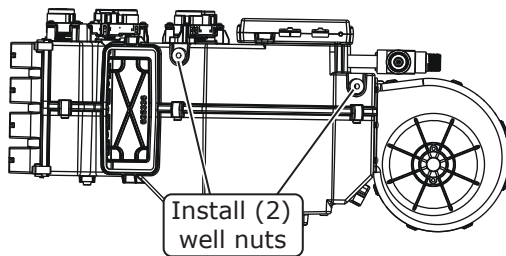

Figure 1
5. Install (2) well nuts on the evaporator module as shown in Figure 1, below.